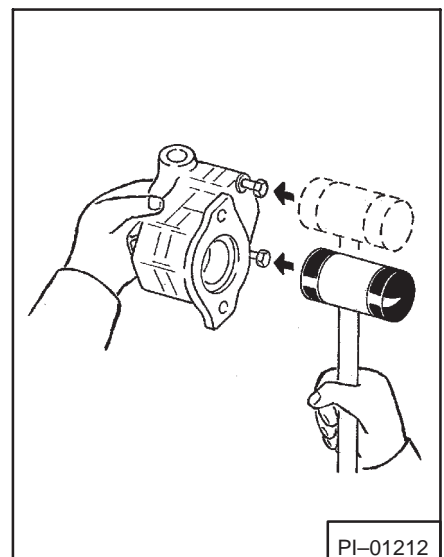

Fig. 4-31 Separating Pump Plates
6. Install two bolts into shaft side and turn them in several turns by hand. Hit sharply on heads of two screws, first one, then the other, then first one again (Fig. 4-31). When the dowels are loose, remove the screws and separate the plates.